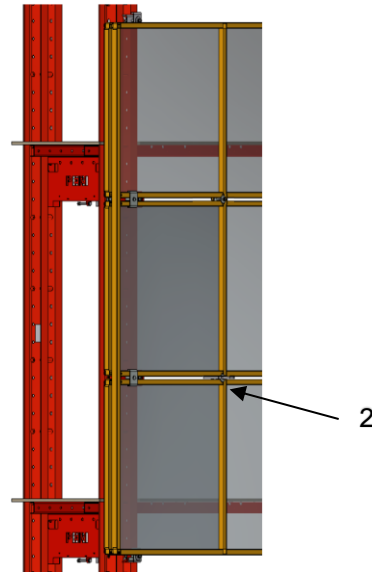

Abb. 12: Telescope start position
9. Loosen the nut (3.1) on the screen adapter combi LPS 60 (3). (Fig. 12)